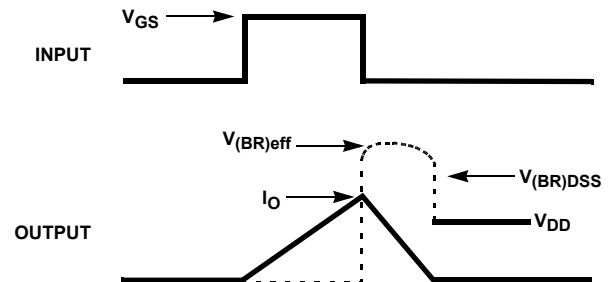
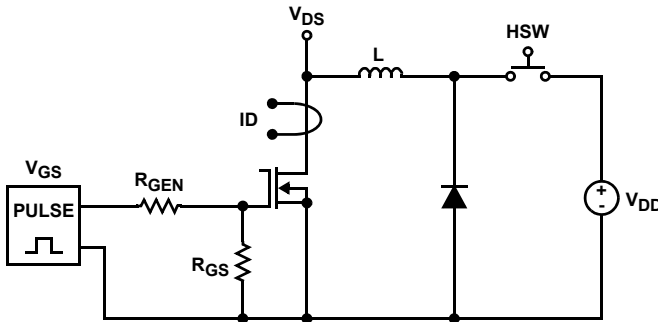

FIGURE 3. UIS WAVEFORMS
FIGURE 4. MODIFIED UIS TEST CIRCUIT
3. Once the desired test current is reached, the gate drive is switched off, which abruptly turns off the MOSFET. Since the inductive load current cannot change instantaneously, the EMF of the inductor drives the MOSFET into drain-to-source avalanche (Figure 3).
Another commonly used test circuit for UIS is shown in Figure 4. Its advantage over the previously described test circuit is that it switches out the V_{DD} supply during avalanche by use of a High Speed Switch (HSW).
Both test circuits shown in Figures 3 and 4 are industry recognized test circuits for UIS. They conform to both JEDEC standard No. 24-5 and MIL-STD750D method 3470.2.
Due to the advantages noted, Intersil uses the test circuit shown in Figure 4. However, actual application circuits used by designers do not usually switch out the V_{DD} supply during avalanche. Thus, the proper circuit equations to be used by designers are generally those resulting from the test circuit shown in Figure 3.